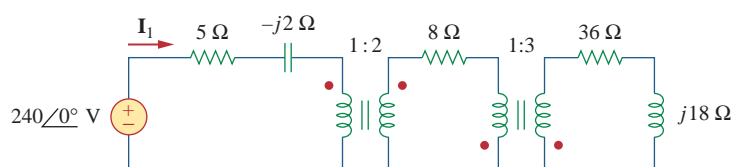

Figure 13.116
- 13.51** Use the concept of reflected impedance to find the input impedance and current I_1 in Fig. 13.116.